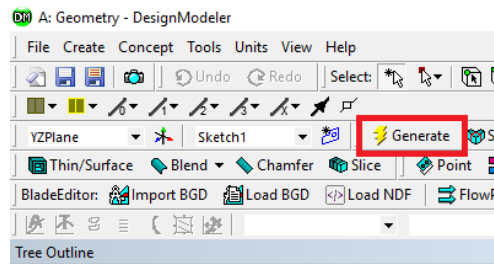

Figure 9: The Generate button shown inside a red box
13. Click Generate, which is shown in Figure 9.